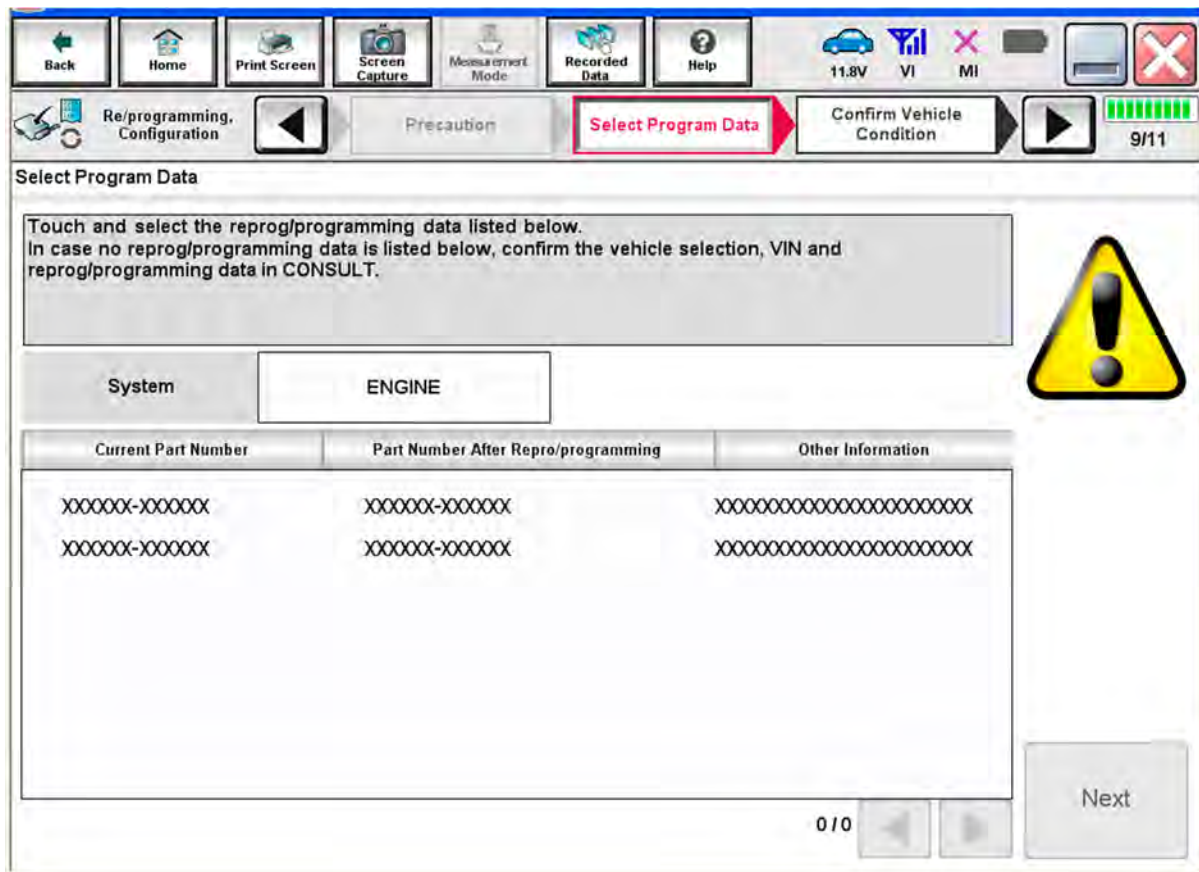

Figure 12
- In this case, the screen in Figure 12 displays.